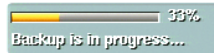

Figure 92. Backup Status Indicators
- d. If the "Configuration data is changed." dialog box is displayed, press the left/right arrow buttons ◀ ▶ on the front panel or remote control to highlight OK, and then press ENTER. Using the mouse, click OK. The system returns to the Live View mode. The backup status indicator is displayed and two messages appear (refer to Figure 92).